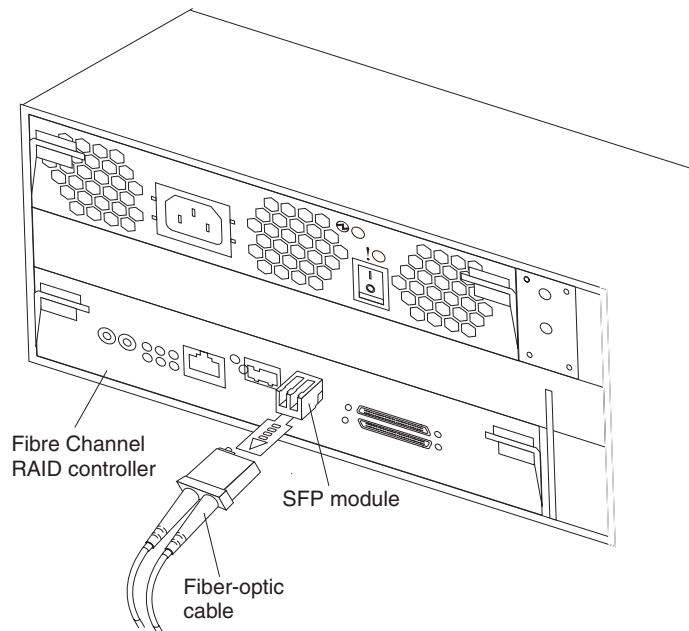

Figure 22. Connecting a fiber-optic cable to the installed SFP module
3. Connect the fiber-optic cable to the installed SFP module, as shown in Figure 22.